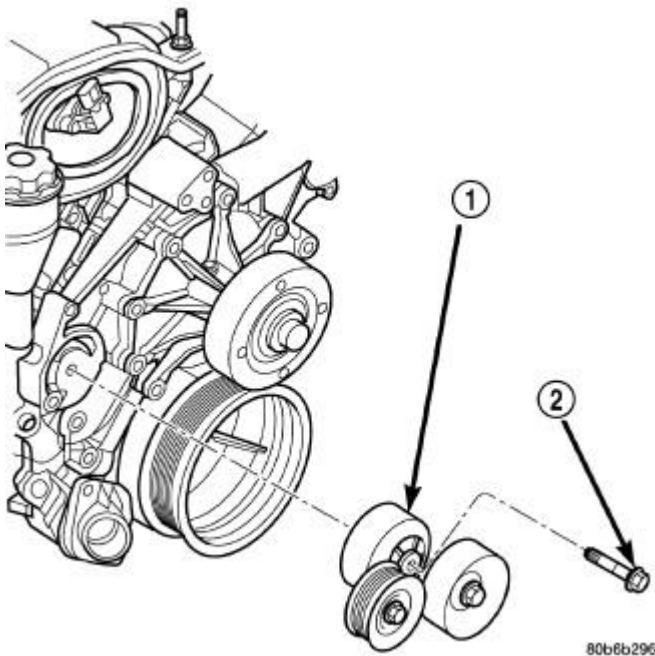

Fig. 173: Accessory Drive Belt Tensioner
7. Remove accessory drive belt tensioner assembly (1). Refer to **Fig. 173**.